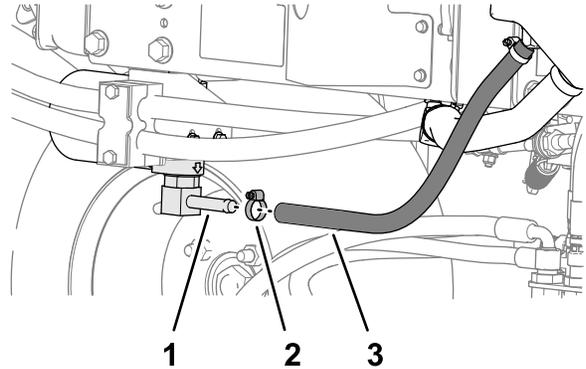

Figure 85
2. Disconnect the hydraulic hose (Figure 85) or remove the hydraulic filter (Figure 86) and drain the hydraulic fluid into a drain pan.